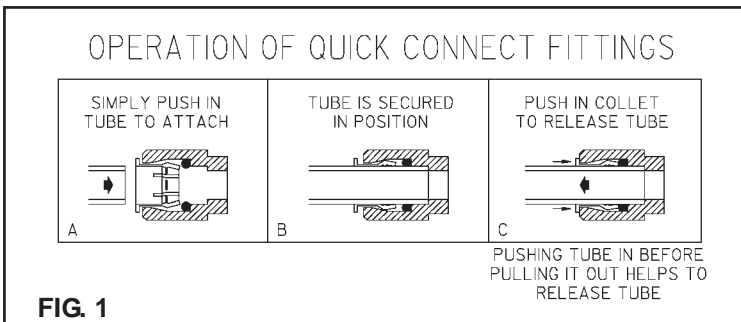

FIG. 1
To use the hold down kit, slide steel rod (item 28) through the hold down plate (item 29). Locate the steel rod in the center of where the fountain location. Drive the rod into the ground leaving approximately six inches exposed. Remove the ice bin from the fountain. The water lines disconnect from the ice bin coil. Refer to Figure 1. Position the fountain over the steel rod and hold down plate. Continue driving the rod into the ground. Rotate the hold down plate to secure the fountain. Continue driving the rod down to adequately secure the fountain in place. Replace the ice bin and reconnect the internal water lines.
Actuation of Quick Connect Water Fittings: Fountain is provided with lead-free connectors which utilize an o-ring water seal. To remove tubing from the fitting, relieve water pressure, push in on the gray collar while pulling on the tubing. (see Fig. 1) To insert tubing, push tube straight into fitting until it reaches a positive stop, approximately 3/4".